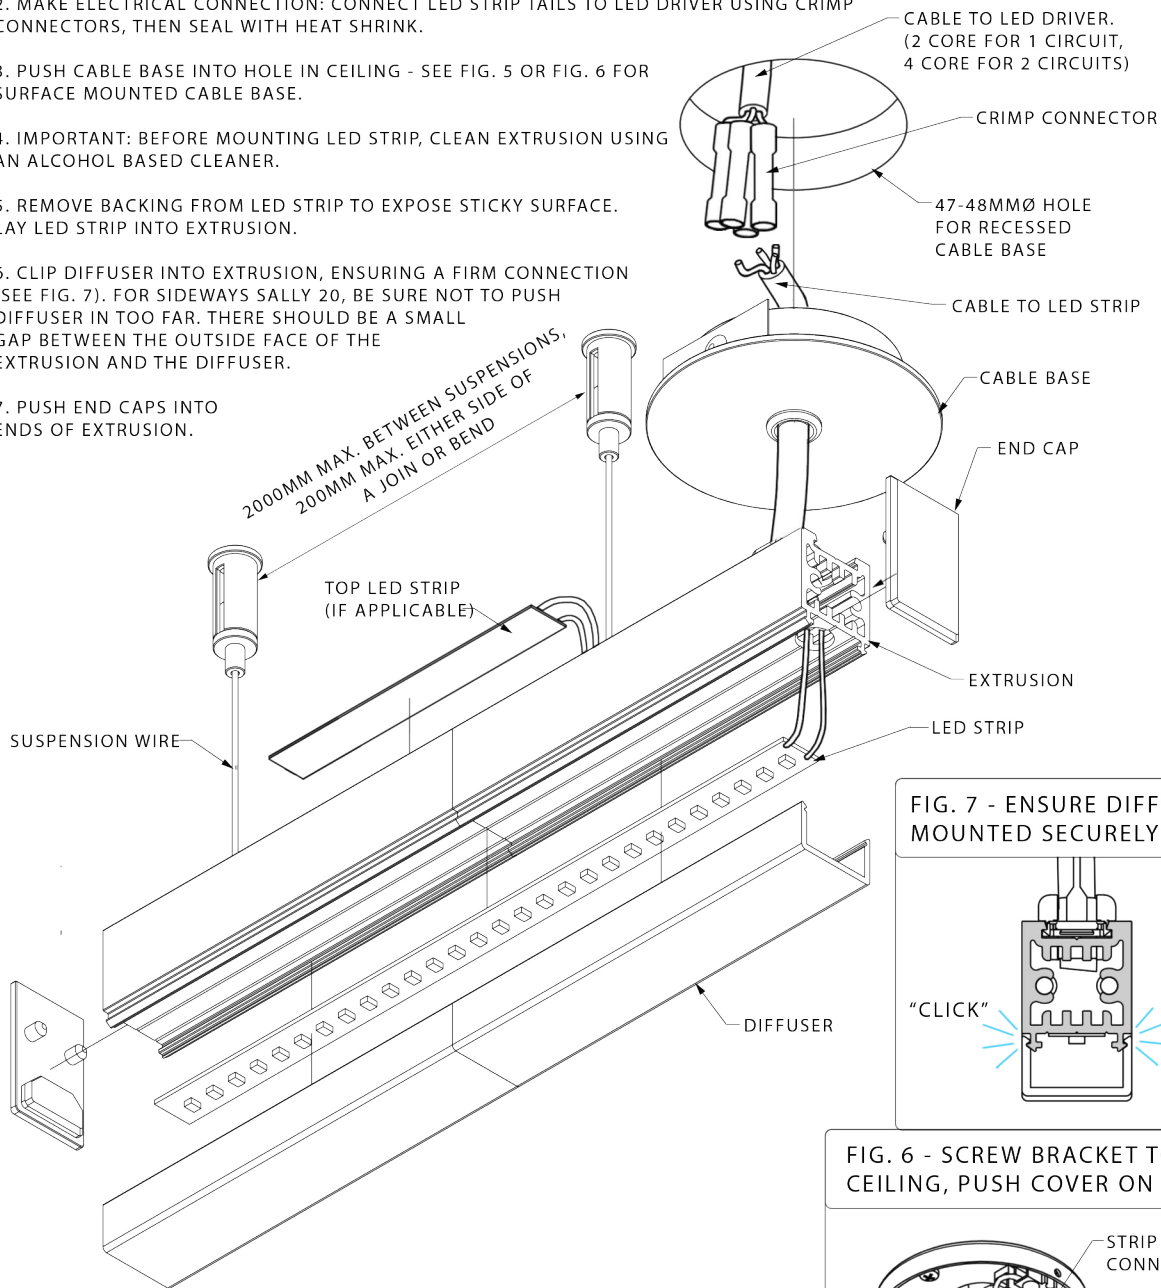

FIG. 7 - ENSURE DIFFUSER IS MOUNTED SECURELY
6. CLIP DIFFUSER INTO EXTRUSION, ENSURING A FIRM CONNECTION (SEE FIG. 7). FOR SIDWAYS SALLY 20, BE SURE NOT TO PUSH DIFFUSER IN TOO FAR. THERE SHOULD BE A SMALL GAP BETWEEN THE OUTSIDE FACE OF THE EXTRUSION AND THE DIFFUSER.